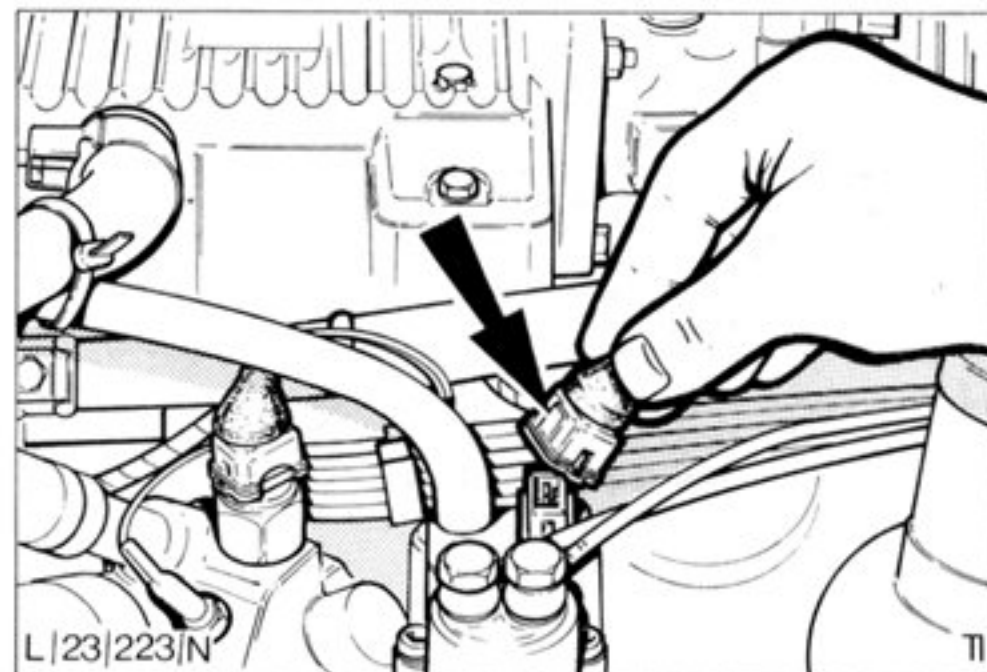

Fig.76. Reconnecting warm-up regulator electric plug.
- (i) Connect electric plug to warm-up regulator Fig.76.